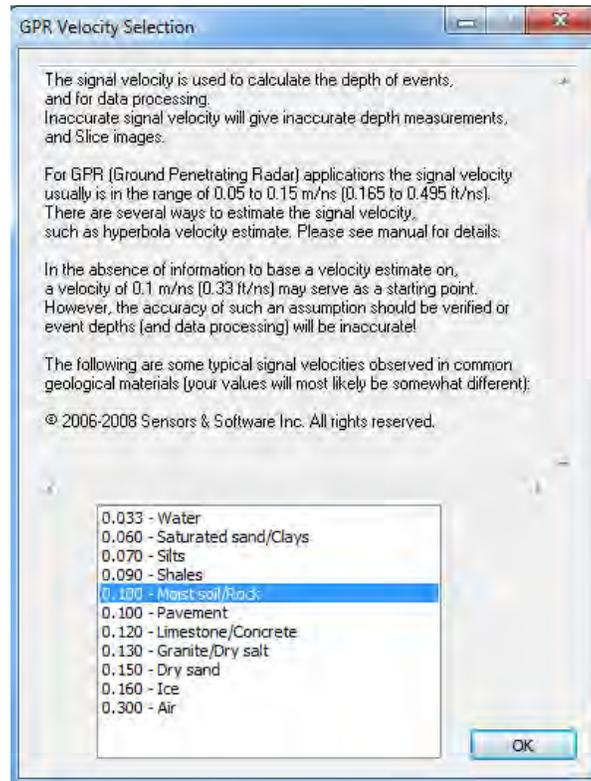

Figure 6-25: Velocity Table
If you need help selecting an appropriate velocity, click on the “.” button beside the velocity value and a table of typical velocity values for various materials is displayed (Figure 6-25). The velocities are listed in meters per nanosecond or feet per nanosecond depending on the setting for units (0); the default velocity is 0.10 m/ns or 0.328 ft/ns.